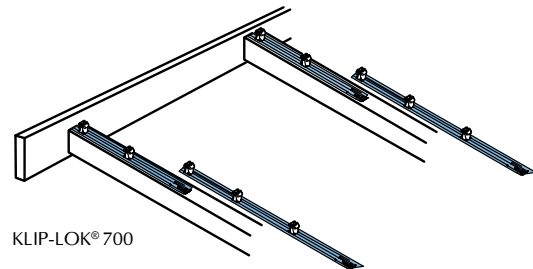

Figure 4
2. Position the first clips on each purlin by placing onto the purlin nearest to the gutter (Refer figure 4).